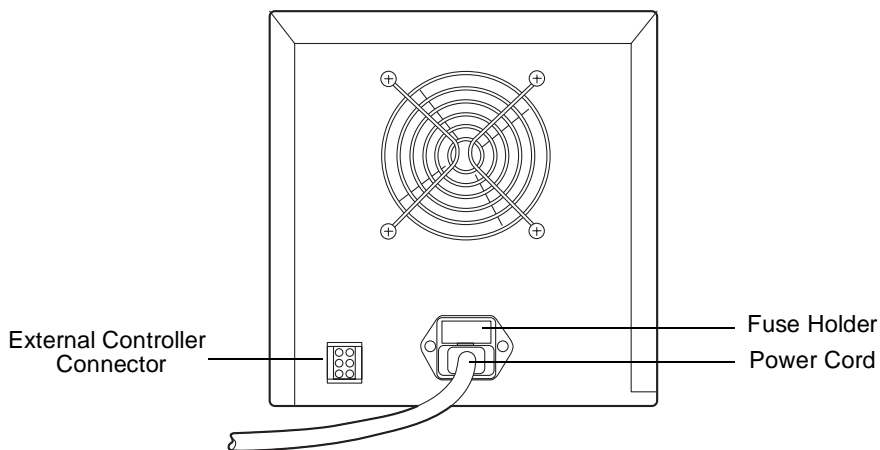

Figure 2-2 Rear Panel of the 515 Pump
1. If necessary, power off the pump by turning the On/Off switch to the 0 position, then remove the power cord from the rear panel of the instrument (see Figure 2-2).
2. Use the small flat-blade screwdriver to remove the fuse holder located just above the power cord connector (see Figure 2-2).
1. Attach either end of the pump control cable to the External Controller Connector on the rear of the 515 pump (Figure 2-2).